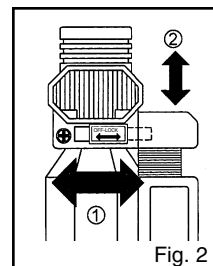

Fig. 2
To ignite unit (figure 2)
- **From Normal Use:** Release pressure from ignition button. Unit will shut off immediately. (figure 2)